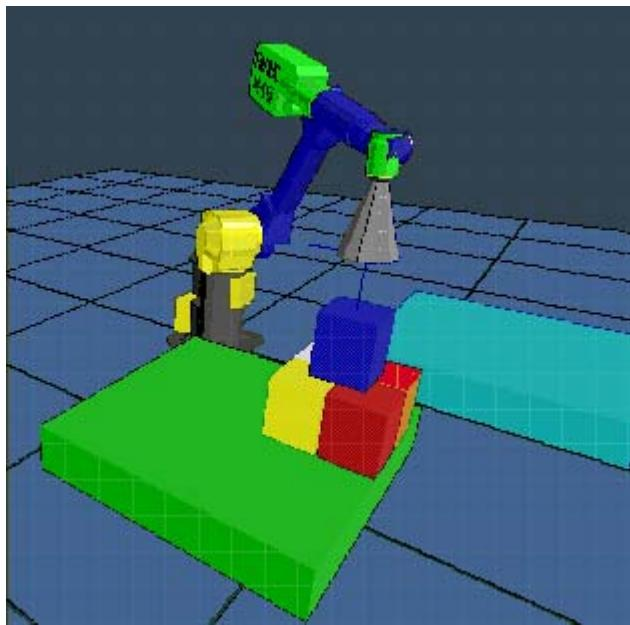

Fig. 2.20 Robot during paletization
10. Write a control program that for the robot moves boxes from one storage space to another and sets them into the form of pyramide, as shown in Fig. 2.20. Use GRAB and RELEASE functions. GRADE 5